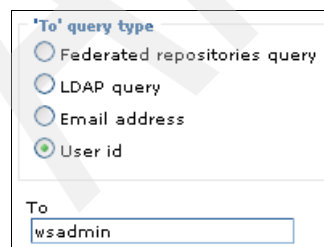

Figure A-54 Modifying the notification properties
3. For each notification (Figure A-54):